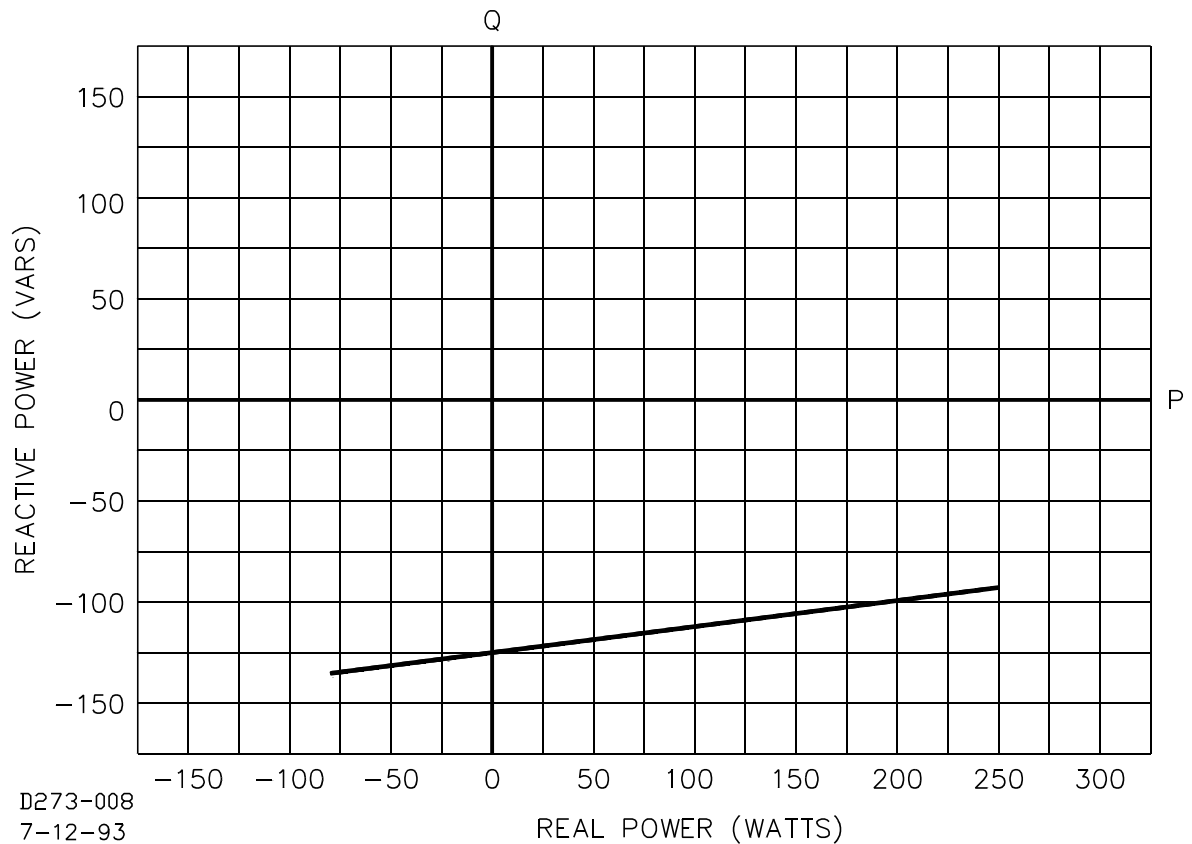
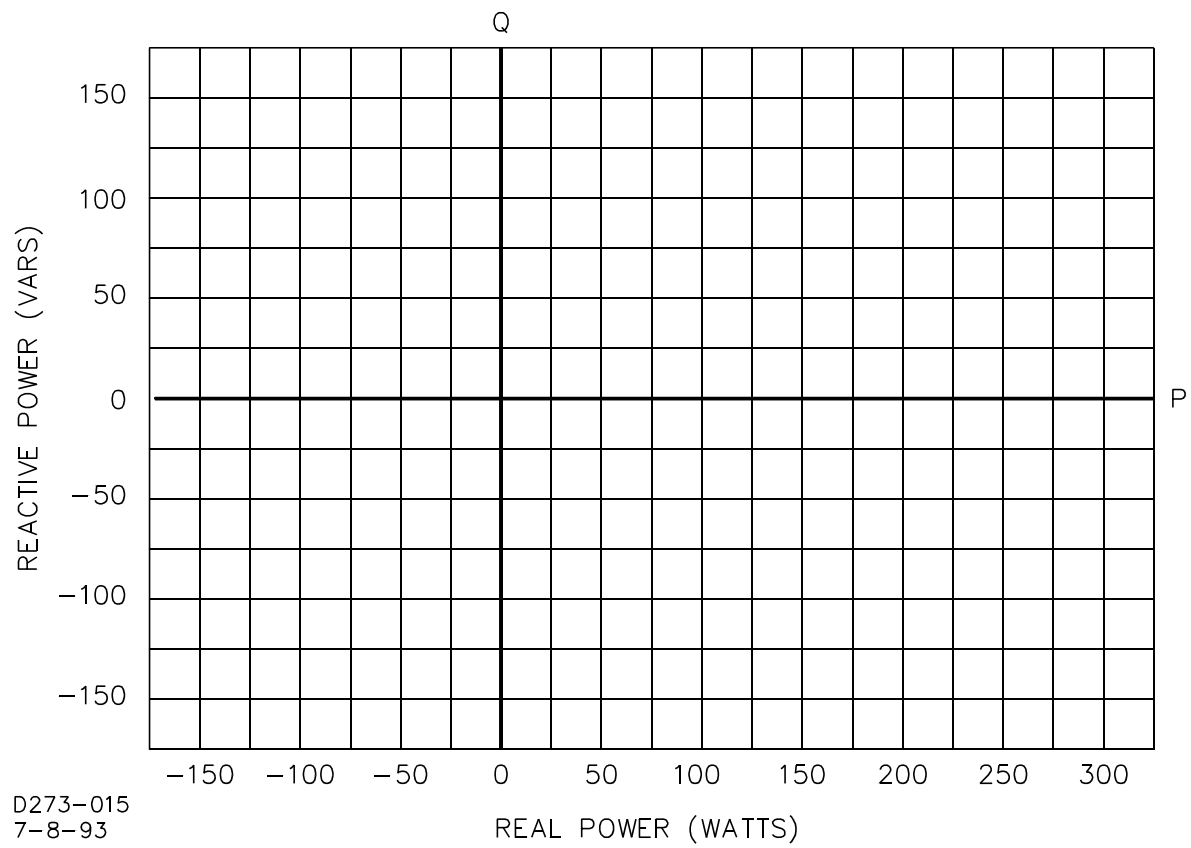

Figure 5-3. BE1-40Q Relay Characteristics Plotted on Complex Power Plane
Figure 5-4. Blank Graph
Step 2. Finally, the data from Table 5-4 is shown plotted on the complex power plane shown in Figure 5-3. A blank graph is provided as Figure 5-4.
Table 5-4. Data for the Hypothetical Graph of Figure 5-3